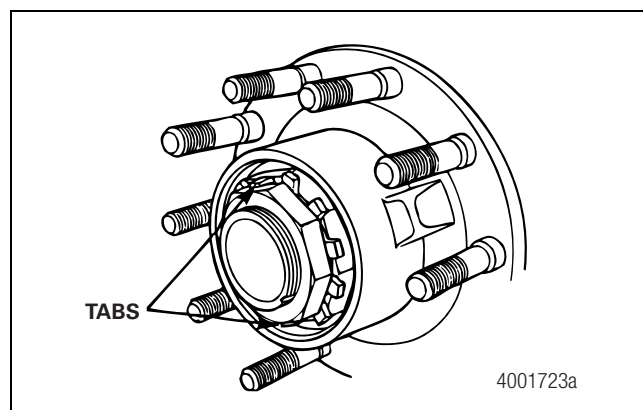

Figure 3.33
- Use a tool to bend two lock washer tabs over the opposite flats of the outer nut. Keep the tool securely on the tabs. If the tool slips off the tabs, you could damage the hub outer seal. Figure 3.33.